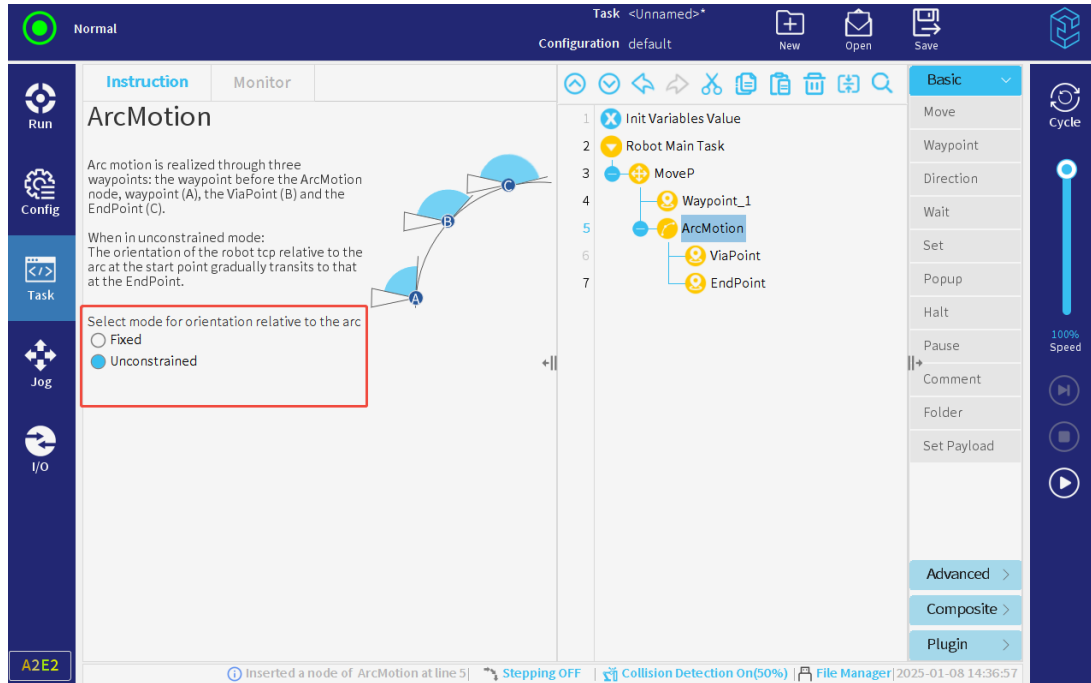

Figure 3-85 : Circular motion
3. Click  , add an arc motion, as shown in **Figure 3-85** .